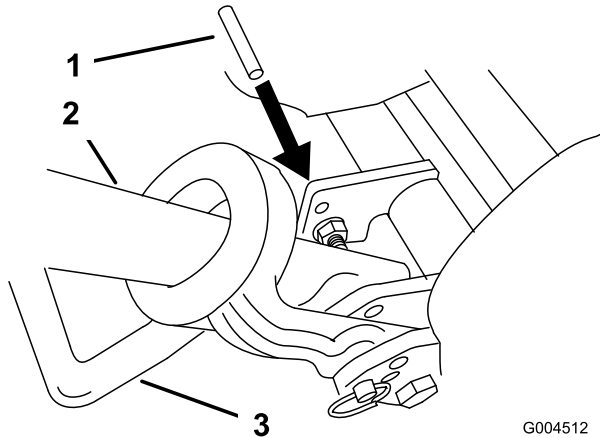

Figure 13
2. Lower kick stand. Insert a 1/4 inch (6 mm) diameter pin or equivalent into frame hole above kick stand mounting bolt (Figure 13).